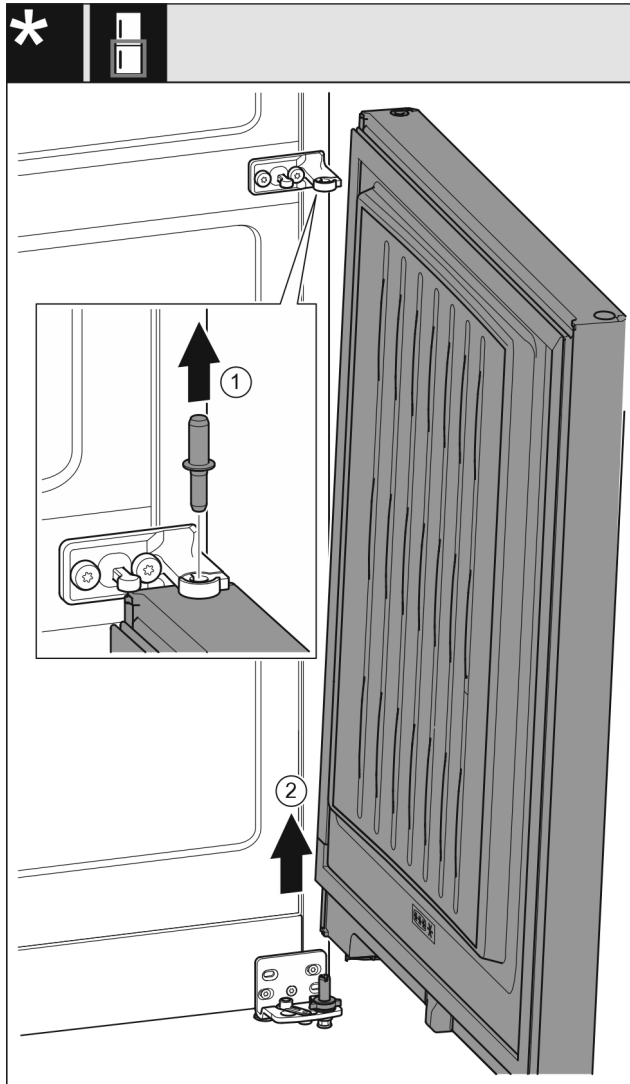

Fig. 8
- ▶ Pull out the bolts upwards. Fig. 8 (1)
- ▶ Swing the door out, pull it upwards and set it aside. Fig. 8 (2)